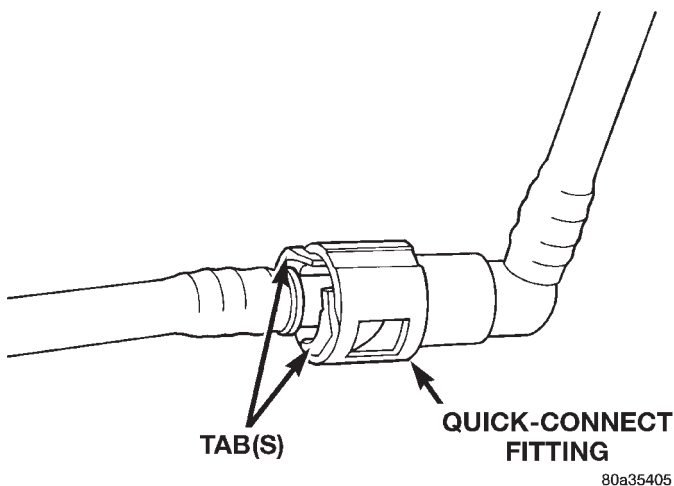

Fig. 10 Typical Two-Tab Type Quick-Connect Fitting
This type of fitting is equipped with tabs located on both sides of the fitting (Fig. 10). These tabs are supplied for disconnecting the quick-connect fitting from component being serviced.
(1) Perform fuel pressure release procedure. Refer to Fuel Pressure Release Procedure in this group.
(2) Disconnect negative battery cable from battery or auxiliary jumper terminal.
(3) Clean fitting of any foreign material before disassembly.
(4) To disconnect quick-connect fitting, squeeze plastic retainer tabs (Fig. 10) against sides of quick-connect fitting with your fingers. Tool use is not required for removal and may damage plastic retainer. Pull fitting from fuel system component being serviced. The plastic retainer will remain on component being serviced after fitting is disconnected. The O-rings and spacer will remain in quick-connect fitting connector body.
(5) Inspect quick-connect fitting body and component for damage. Replace as necessary.